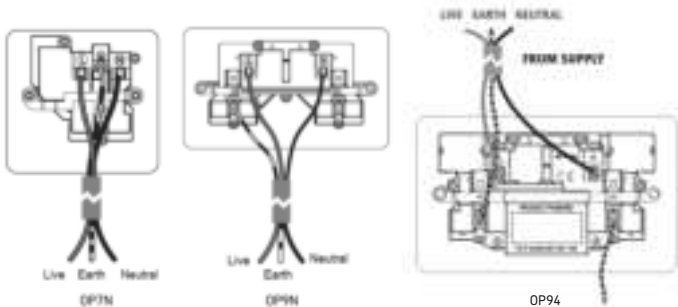

Fig. 3
- Replace the gasket onto the backbox, then wire as shown in Fig. 3 for OP7N/OP9N/OP94